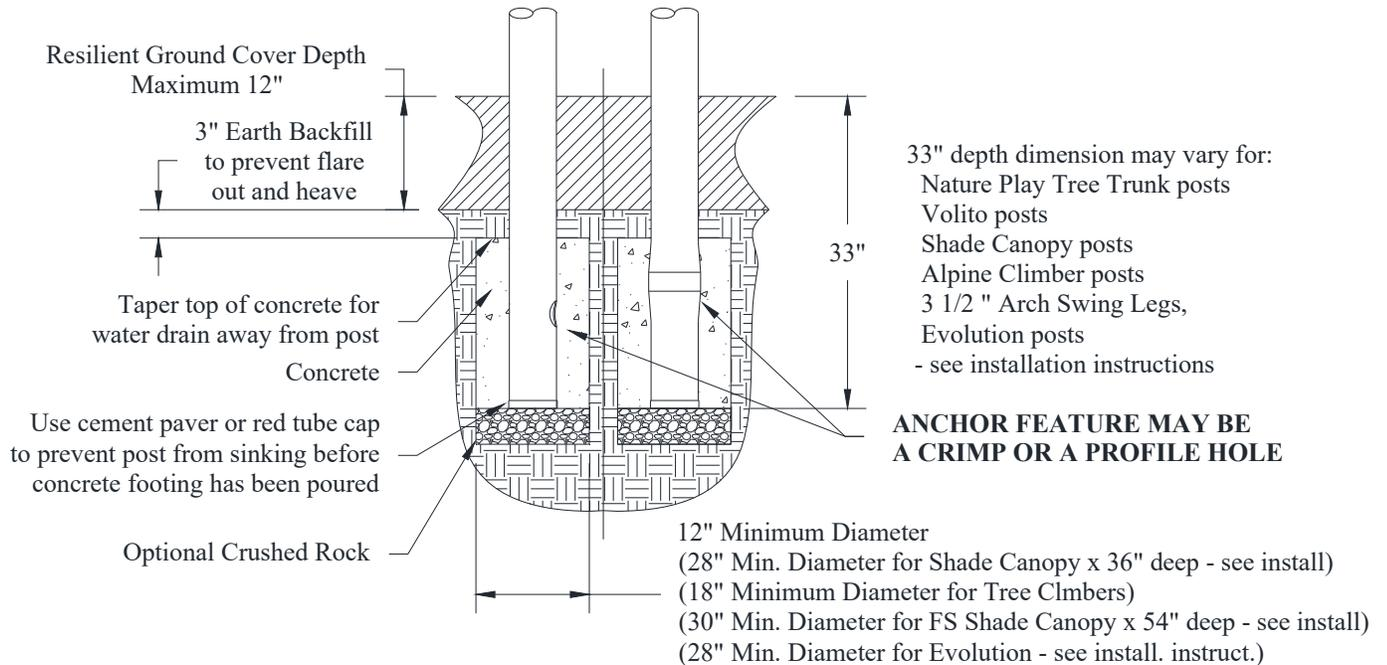
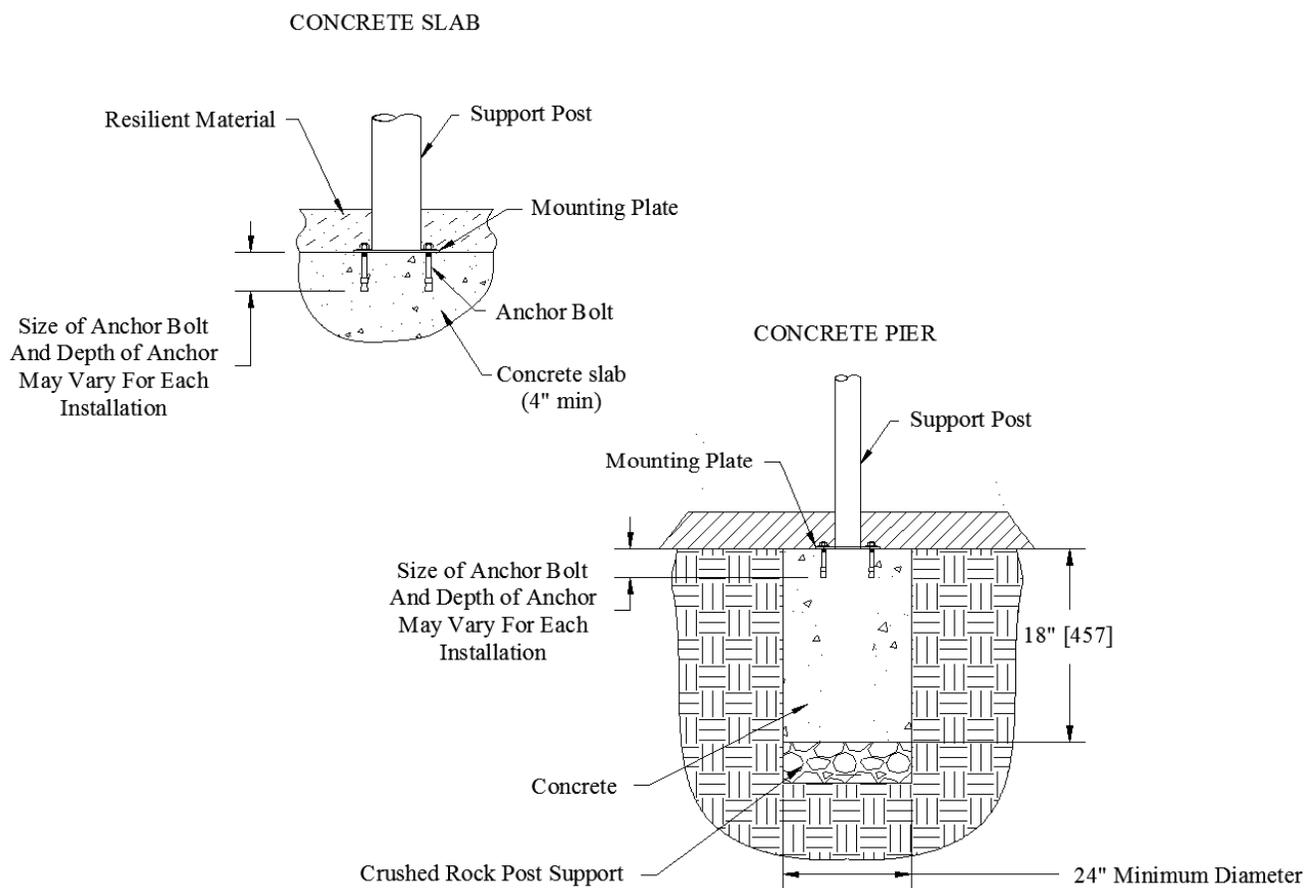

Figure 2: Support Post Footing Detail
Figure 5: Surface Mount Detail
5. Footing hole depths may vary depending on the depth of the resilient material to be installed along with local soil and weather conditions. See Typical Concrete Footings in Figures 2 - 7 (located on pages 11 - 13). Use masonry bricks, gravel, or shims at the bottom of the footing holes in order to block up and plumb the posts and the platforms to the correct level. Be sure to use red plastic caps provided on ends of posts to keep posts from sinking in support material.
- Pour concrete footings. **MAKE SURE UNIT IS PLUMB AND LEVEL BEFORE POURING CONCRETE FOOTINGS.** See Typical Concrete Footings in Figure 2 through Figure 5 (Located on Page 7 through Page 9). After concrete footings have been poured and the concrete has set, backfill holes with dirt to reduce the potential of any concrete footing ever protruding above the resilient surfacing material
When installing a surface mounted structure or event as seen in Figure 5, there may be multiple mounting plate styles depending on the type of supports involved. A hole is to be drilled and an anchor installed for each hole or slot in all mounting plates. Surface mounted events and structures are to be installed to concrete surfaces only. Concrete is to be a minimum of 4 inches in thickness and have a minimum strength rating of 3000psi for structures without shade canopies; 4000psi with shade canopies.